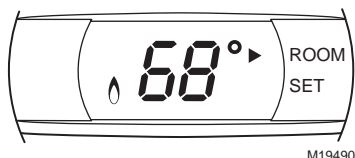

Fig. 18. Room temperature display.
2. If a change to the temperature setpoint is not made within five seconds, the display will switch to the current room temperature. An ► indicator points to Room when the room temperature is displayed (see Fig. 18).